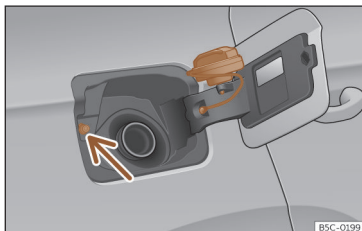

Fig. 205 Fuel tank flap with tank cap attached.
- Place it in the space on the hinge of the open flap >>> **Fig. 205**.
Avoid touching the fuel tank flap lock button >>> **Fig. 205** (arrow). The system will interpret that you have finished and cannot continue refuelling. Press the  button on the driver's door again to continue.